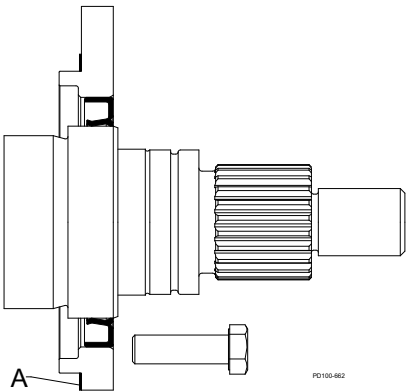

Figure 271 - Remove Sealant from Retainer
4. Remove the silicone sealant (Figure 271, item A) from the bearing retainer and gear case.